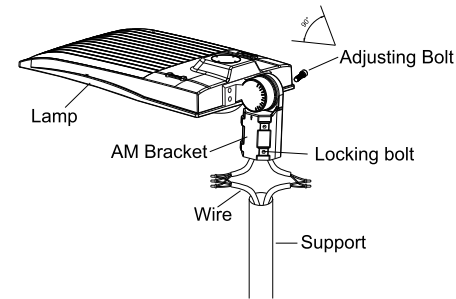

Figure 11
1. ADJUSTABLE FITTER MOUNTING (AM)
- Step 1: Loosen the four bolts on AM bracket, connect the wires correctly, and pull the wires into the poles. (Figure 11)
- Notice: Adjustable angle is 0-90° (Figure 11)